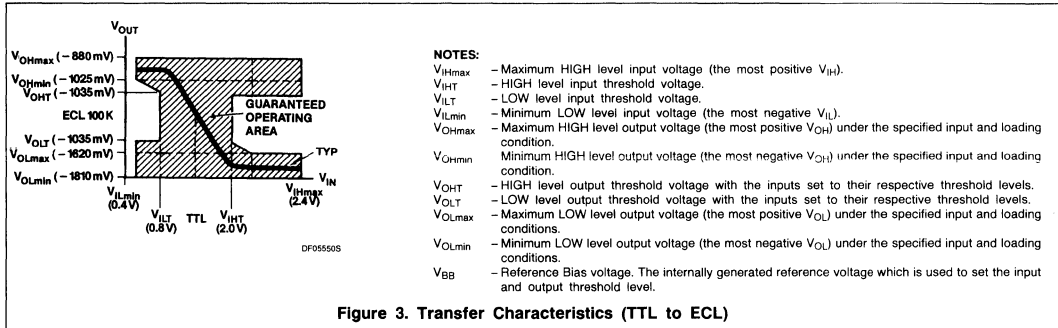

Figure 3. Transfer Characteristics (TTL to ECL)
- The specified limits shown in the DC Characteristics can be met only after thermal equilibrium has been established. Thermal equilibrium is established by applying power for at least 2 minutes while maintaining transverse air flow of 2.5 meters/s (500 linear feet/min) over the device either mounted in the test socket or on the printed circuit board. Test voltage values are given in the DC Operating Conditions and defined in Figure 3.